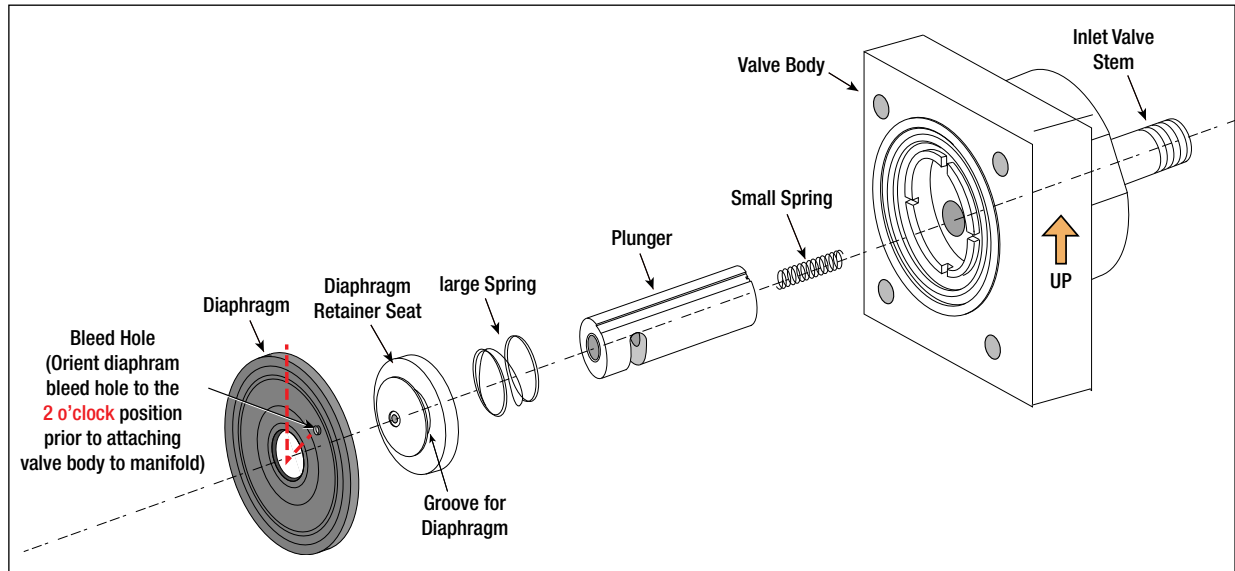

Figure 8. Inlet Valve Components
- Clean and inspect all valve components (see Figure 8). If all parts are in good condition the Inlet Valve may be re-assembled for replacement. In the event the valve is damaged, or components have been lost, the valve assembly must be replaced.
- Verify all valve components are clean and assembled correctly, referencing Figure 8 above.